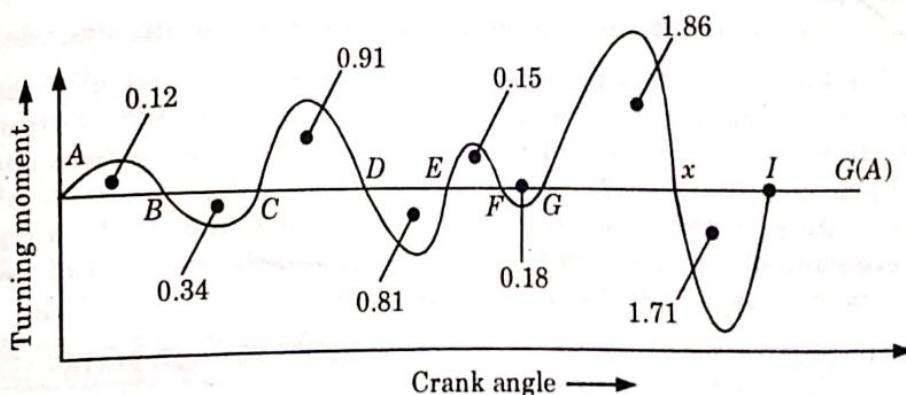

Fig. 3.25.1.
1. Draw the turning moment diagram as shown in Fig. 3.25.1 on the basis of given data.
3. Let total energy at $A = E$, then referring to Fig. 3.25.1,